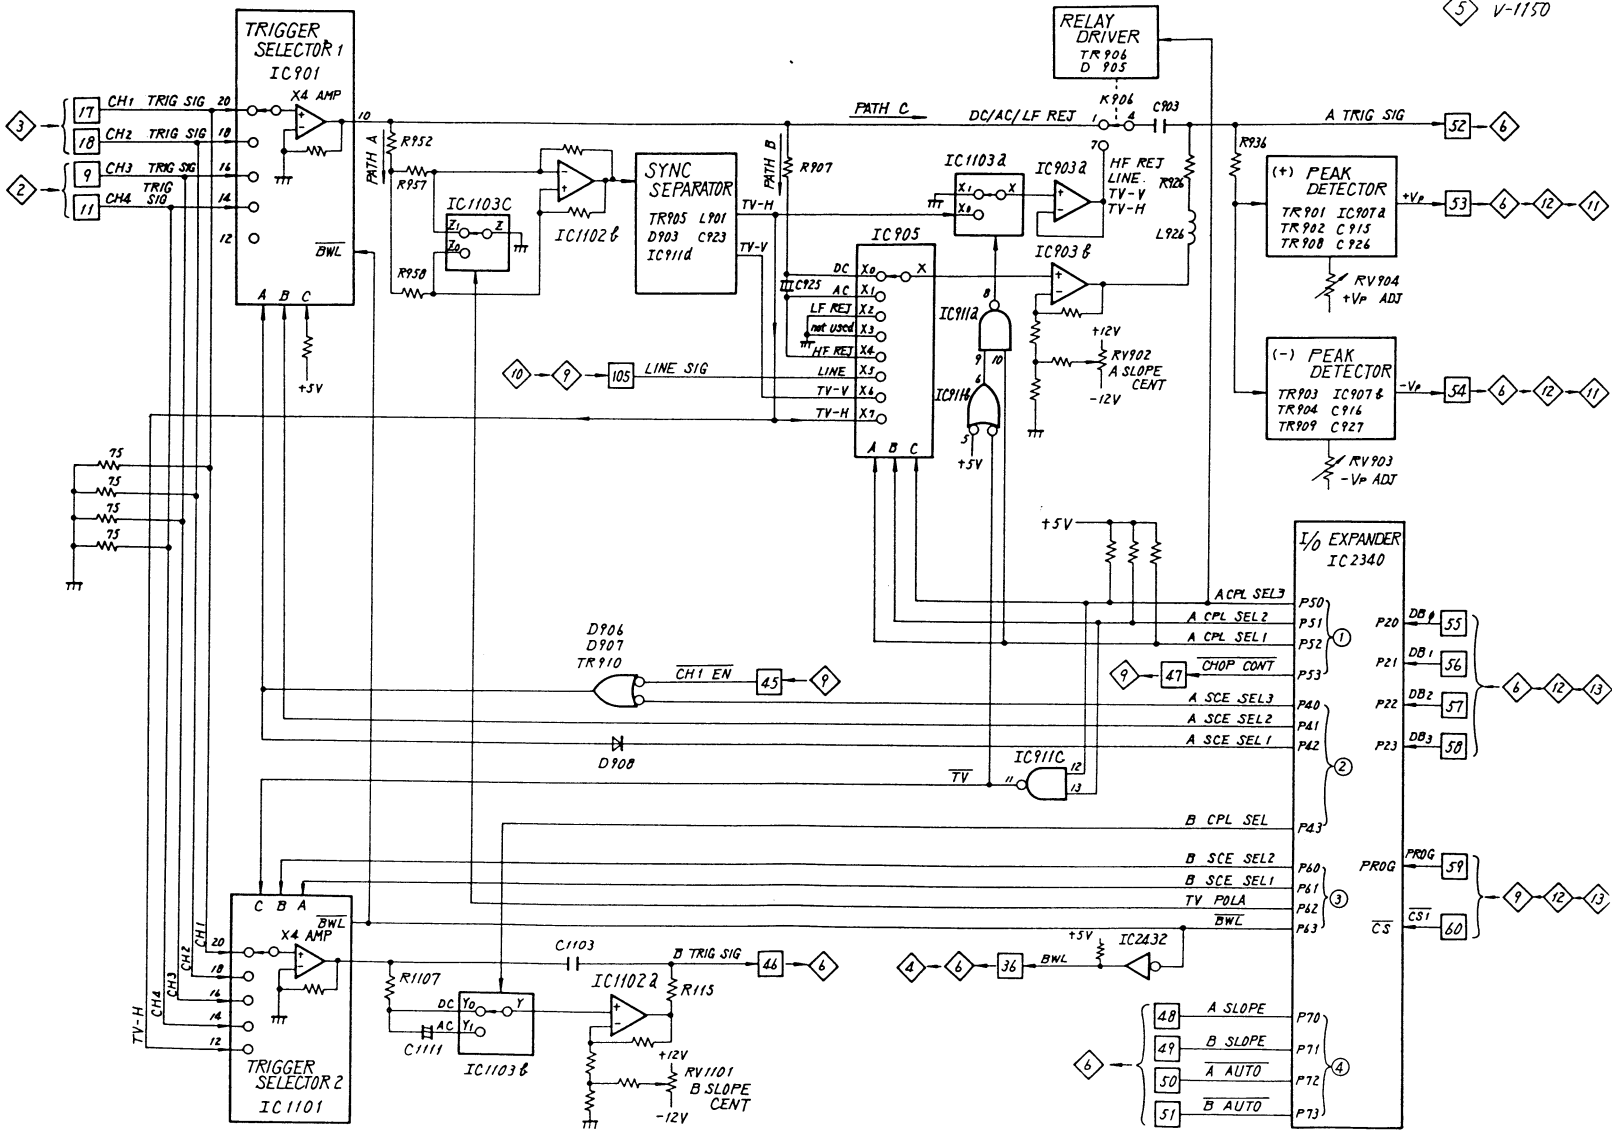

Fig. 6-6
Figure 6-6 shows a detailed block diagram of this circuit. The TRIG SIG from 17, 18, 9, and 11 are supplied to TRIGGER SELECTOR 1 IC901 and TRIGGER SELECTOR 2 IC1101 which select trigger sources of A TRIG and B TRIG, respectively. The two selectors use same ICs, UH-207. The UH-207 incorporates an analog switch for 5-channel switching and a 4X amplifier and a bandwidth can be switched between 150 MHz and 20 MHz by the $\overline{\text{BWL}}$ signal. (When the $\overline{\text{BWL}}$ signal is "L," the bandwidth of 20 MHz is selected.) The TRIGGER SELECTOR 1 uses four channels and the remaining one channel is not used.
As shown in Figure 6-6, D906, D907, and TR910 constitute a circuit equivalent to a negative OR circuit.
I/O EXPANDER IC2340 functions as an output port in this circuit. IC2340 consists of four output ports ① , ② , ③ , ④ as shown in Figure 6-6. The PROG signal from 59 controls the output port to which the data (DB0, DB1, DB2, and DB3) from the microcomputer is supplied.